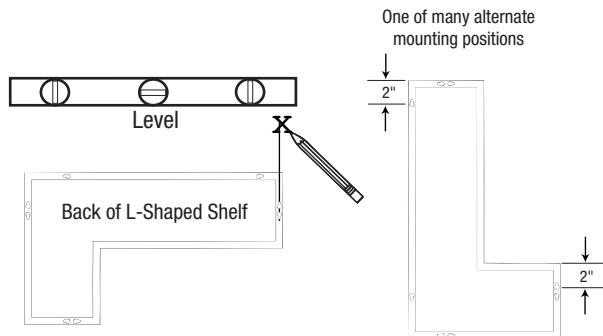

Figure 1
STEP 1: Select installation areas and mark keyhole locations on wall the correct distance apart. Use a level to make sure the shelves will be straight, as shown in **Figure 1**.